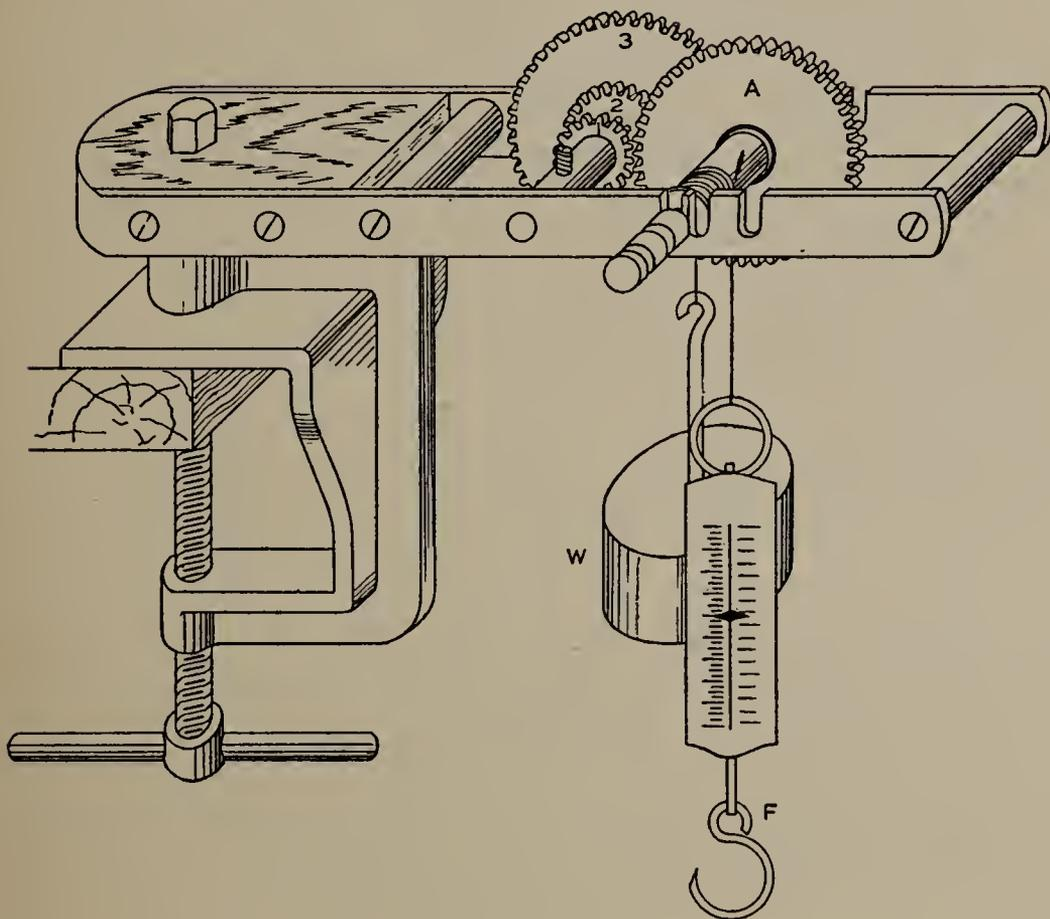

FIG. 33.
(a) Arrange the train of gears as in Fig. 33.  $A$  is the driving gear and  $1$  is the driven gear. Find the pull required to lift the weight using a slow steady pull. Measure the distance through which the pull,  $F$ , must act to lift
*Materials Required.*—Train of gears as shown in Fig. 33; clamp; spring balance; cord (fish line or Goodyear lock-stitch cord); weights.